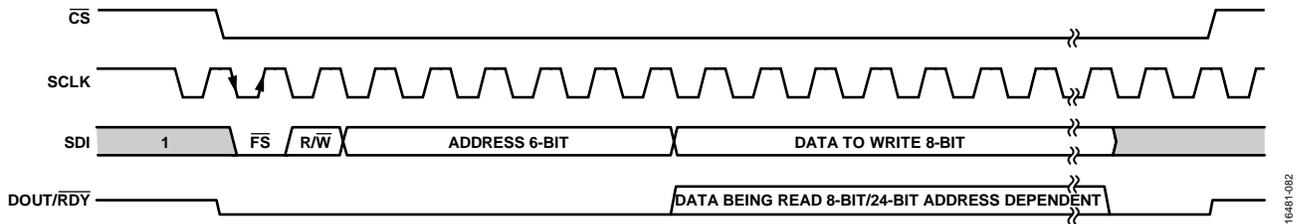

Figure 98. SPI Basic Read/Write Frame
The format of the SPI read or write is shown in Figure 98. The MSB is the first bit in both read and write operations. An active low frame start signal ( $\overline{\text{FS}}$ ) begins the transaction, followed by the R/W bit that determines if the transaction being carried out is to a read (1) or a write (0). The next six bits are used for the address, and the eight bits of data to be written follow. All registers in the ADAQ7768-1 are 8 bits in width, except for the ADC\_DATA register (Register 0x2C), which is 24 bits in width. In the case where  $\overline{\text{CS}}$  is tied low, the last SCLK rising edge completes the SPI transaction and resets the interface. When reading back data with  $\overline{\text{CS}}$  held low, it is recommended that SDI idle high to prevent an accidental reset of the device where SCLK is free running (see the Reset section).